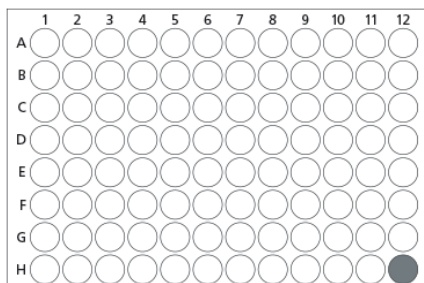

Figure 1. 96-Well Plate Diagram Indicating Well Containing TBP qPCR Control Template
- 5 μ L TBP qPCR Control Template + 5 μ L qPCR Master Mix in well H12 (see Figure 1)